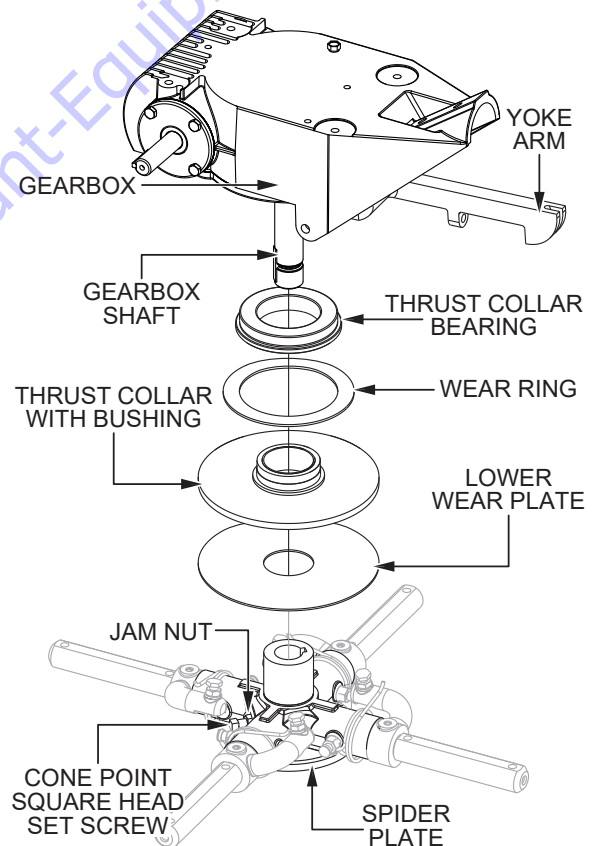

Figure 67. Spider Removal
1. Locate and loosen the cone point square head set screw and attached jam nut on the side of the spider assembly (Figure 67).